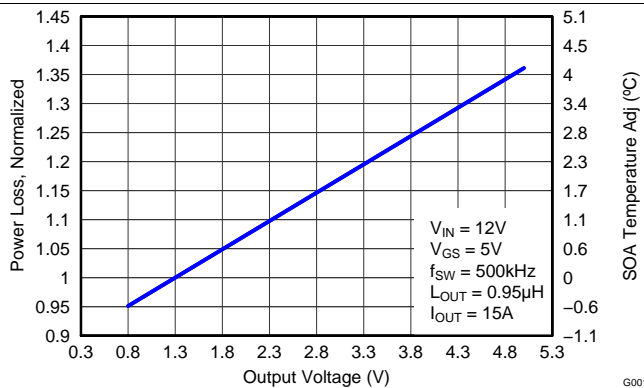

Figure 7. Normalized Power Loss vs Output Voltage
- Normalized Power Loss for output voltage  $\approx 0.97$  (Figure 7)
- SOA adjustment for output voltage  $\approx -0.3^{\circ}\text{C}$  (Figure 7)